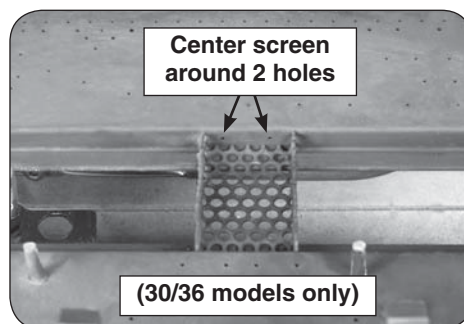

Fig. 32-4 Proper screen position (if applicable)
12. **30 & 36 Models:** Prior to proceeding to log set and ember placement, ensure the ember screen that rests in between the front and rear burner is properly positioned. See Fig. 32-4 for details.